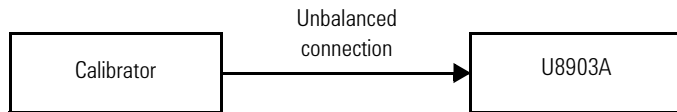

Figure 3-2 Calibrator to U8903A connection for AC accuracy and flatness verification
- 1 Connect the calibrator to the U8903A input channel to be tested via the Unbalanced connection as shown in Figure 3-2. The BNC-to-banana jack adapter is used for this connection. Preset both the U8903A and calibrator.